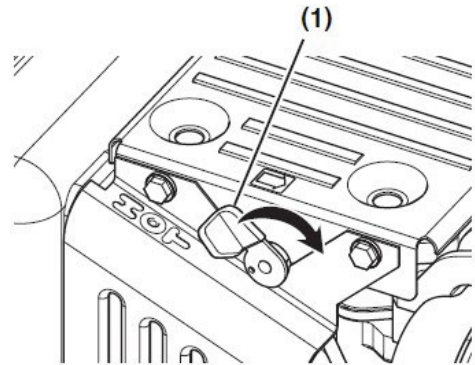

Figure 8
1. Grasp the recoil starter handle (**Figure, (1)**).
4. Push the decompression lever (**Figure 8, (1)**) down and release it. The decompression lever will automatically return to the original position when the engine starts. Some L-N model engines have an automatic, internal compression release mechanism and do not have the external compression release lever. Refer to the specific instructions for your driven machine.
5. Grasp the recoil starter handle (**Figure, (1)**).